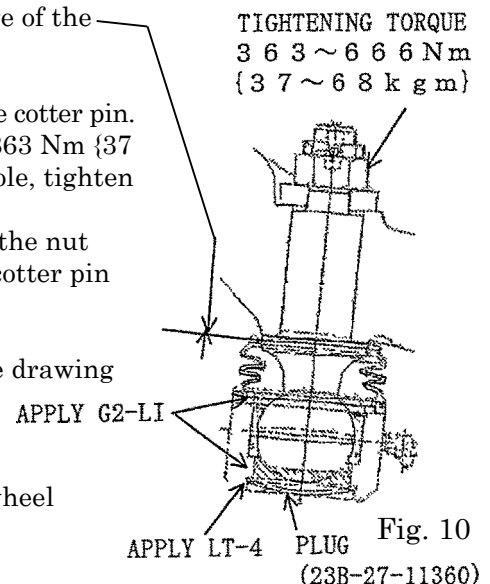

Fig. 10
Precaution ④: There should not be a clearance between the flange of the ball stud and the housing. (Refer to Fig. 10.)